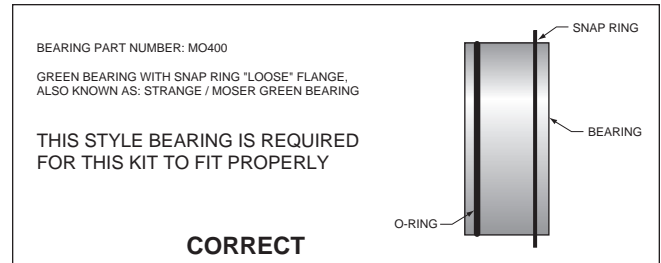
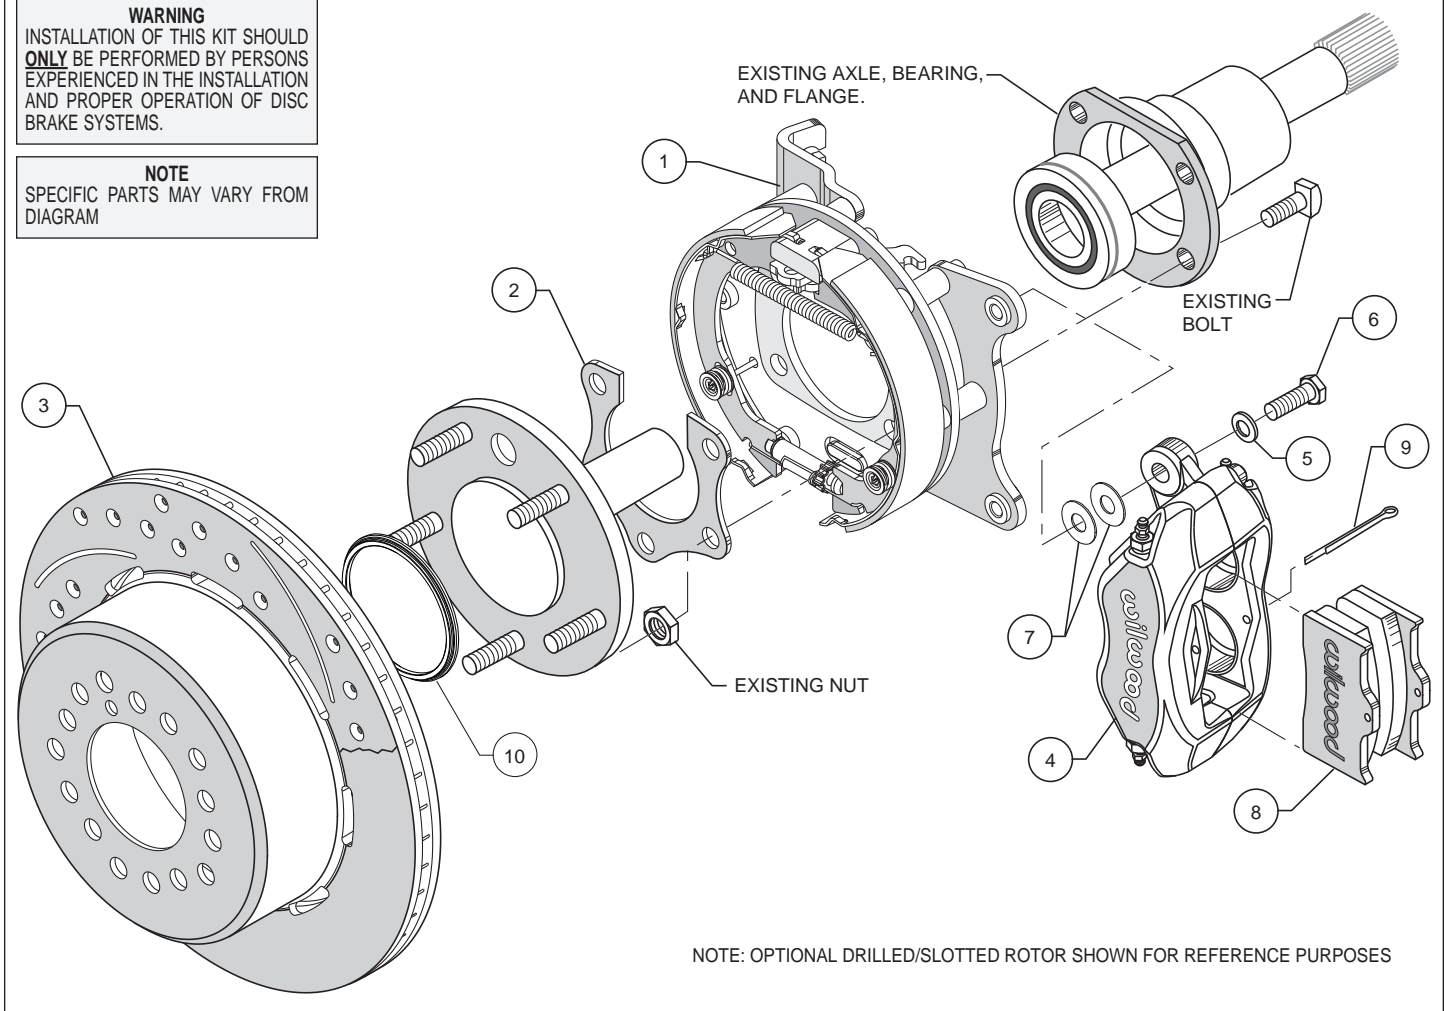
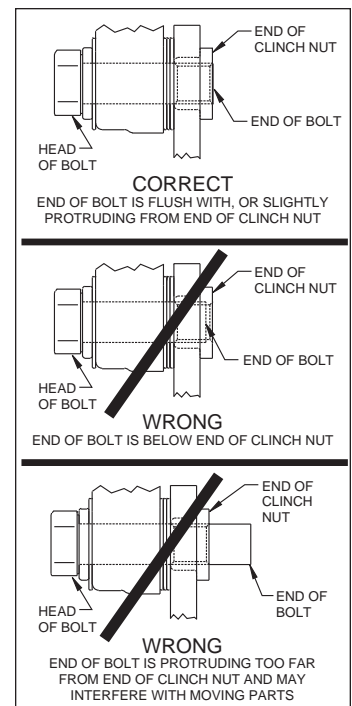

Figure 2. Loose Fit Bearing Configuration
Figure 3. Typical Installation Configuration
Figure 7. Clinch Nut Engagement Diagram
- That the bearing is the snap ring style bearing with removable flange (see Figure 2, page 2).
Assembly Instructions (numbers in parenthesis refer to the parts list, and Figure 3 on the preceding pages): **CAUTION:** All mounting bolts must fully engage clinch nuts. Be sure to check that all bolts are either flush or protruding through flanged side of clinch nut after shimming, Figure 7.
• Determine that the appropriate snap ring style Green bearing has been installed on the axle, as shown in Figure 2. Orient the bracket assembly (1) as shown in Figure 3 and Photo 1 and slide it onto the axle. Insert the axle and bracket into the axle housing. Ensure that the bracket assembly backing plate fits flush against the axle housing flange.
• Install the bearing retainer (2) with the opening pointing upward and the relief step facing inward (toward the bearing), as shown in Figures 3 and 6, and Photo 2. Secure retainer and bracket assembly to the axle housing flange using the Original Equipment Manufacturer (OEM) bolts and nuts, Figure 3. Apply red *Loctite*® 271 to the OEM bolt threads and torque to OEM specifications.
• Slide the rotor registration adapter (10) onto the axle register on the axle flange with the smaller O.D. facing toward the rotor/hat (3), Photo 3. Align the correct hole pattern in the rotor/hat with the stud pattern on the axle flange and slide into place, Figure 3 and Photo 4. **NOTE:** The rotor/hat must fit flush against the axle flange or excessive rotor run out may result. Install three lug nuts (finger tight) to keep the rotor/hat assembly in place while continuing with the installation. **NOTE:** Some OEM and after market axles come with stud sizes larger than 0.50" diameter. Verify stud size and have a qualified machine shop drill the bolt circle of the hat/rotor to the correct stud size, if necessary.
• **NOTE:** Please reference the caution statement at the beginning of the assembly instructions. Mount the caliper (4) onto the caliper mounting bracket (1) using bolts (6) and washers (5), as shown in Figure 3. Initially place two .035" thick shims (7) on each bolt between the caliper and the bracket, Photo 5. Temporarily tighten the mounting bolts and view the rotor (3) through the top opening of the caliper. The rotor should be centered in the caliper, Photo 6. If not, adjust by adding or subtracting shims between the bracket and the caliper. Always use the same amount of shims on each of the two mounting bolts. **NOTE:** The end of each bolt must be flush with or slightly protruding from the head of the clinch nut, as shown in Figure 7. If necessary place spare shims between washer (5) and caliper mounting ear to achieve the proper clinch nut engagement. Once the caliper alignment and clinch nut engagement are correct, remove the bolts one at a time, apply red *Loctite*® 271 to bolt threads, and torque to 40 ft-lb.